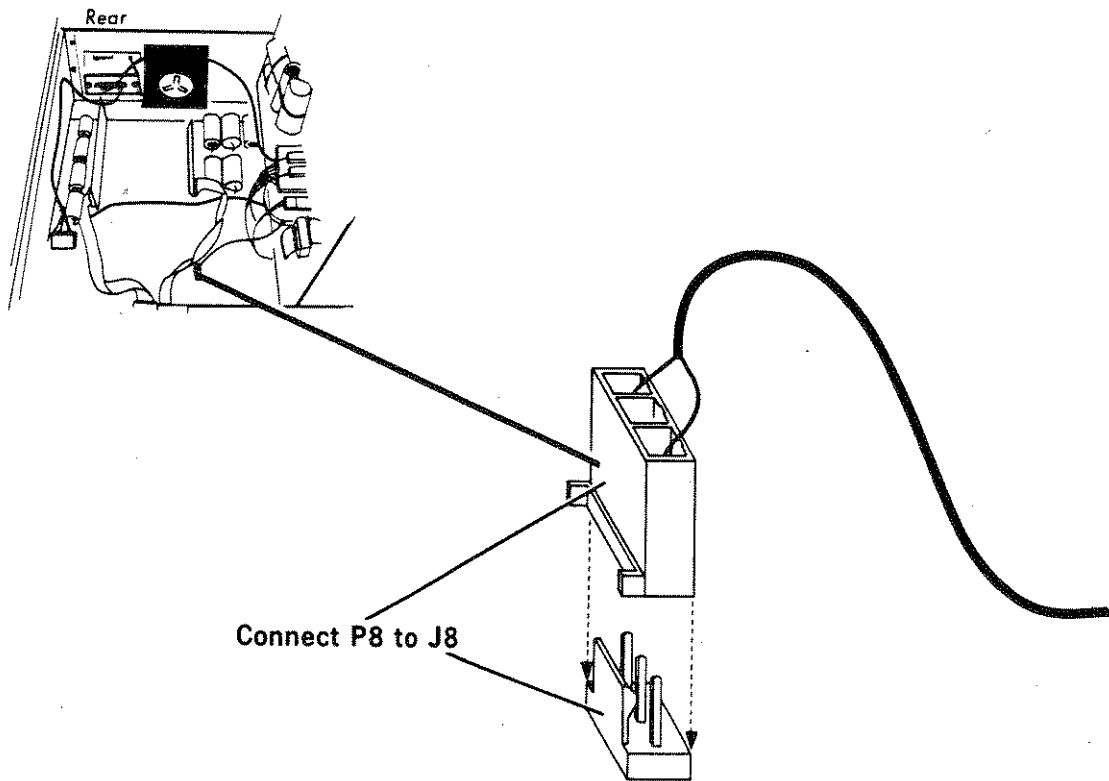

Figure 7-18. Reconnecting P8 to J8
STEP 8. Reconnect P8 to J8. Refer to Figure 7-18.